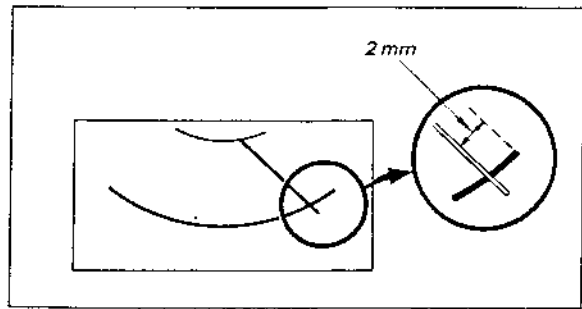
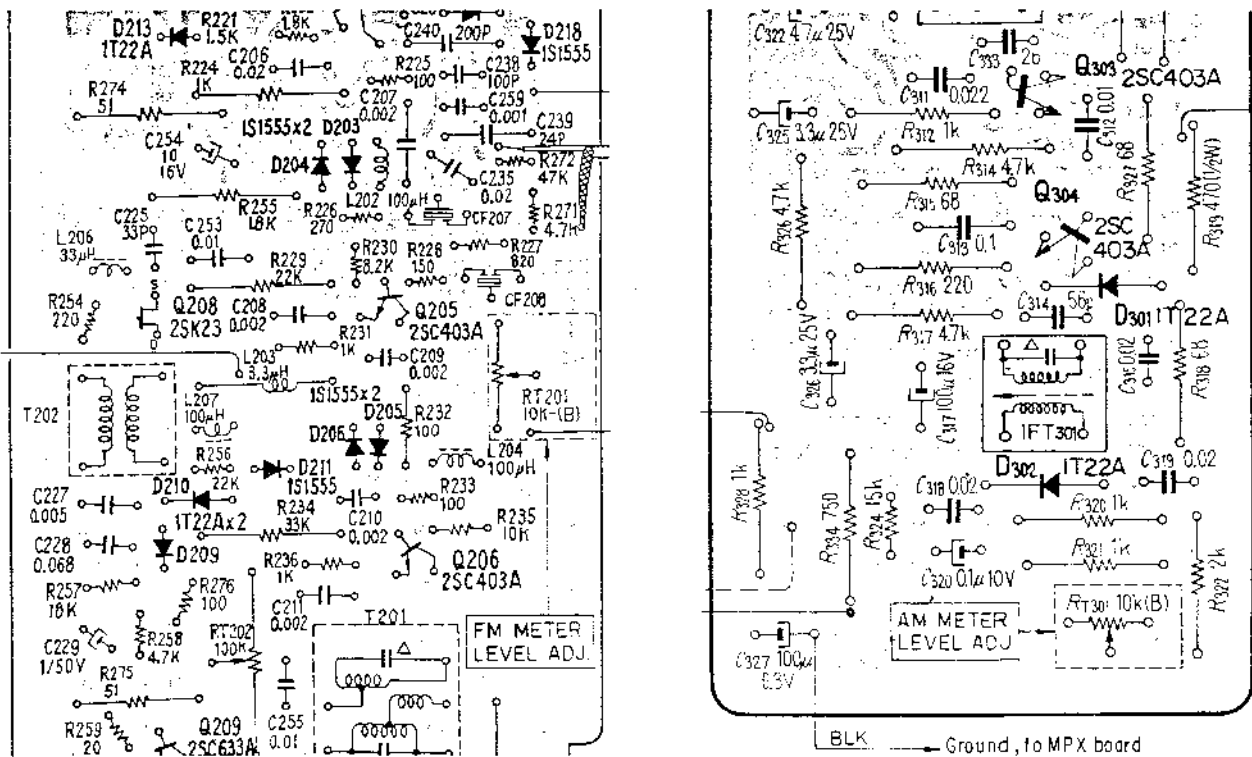

Fig. 3-9. Meter calibration
Fig. 3-8. Adjustment parts location
2. Tune to the signal generator frequency, then adjust RT201 (See Fig. 3-8) for the specified reading on the meter as shown in Fig. 3-9.
2. Tune to the signal generator frequency, then adjust RT301 (See Fig. 3-8) for the specified reading on the meter as shown in Fig. 3-9.